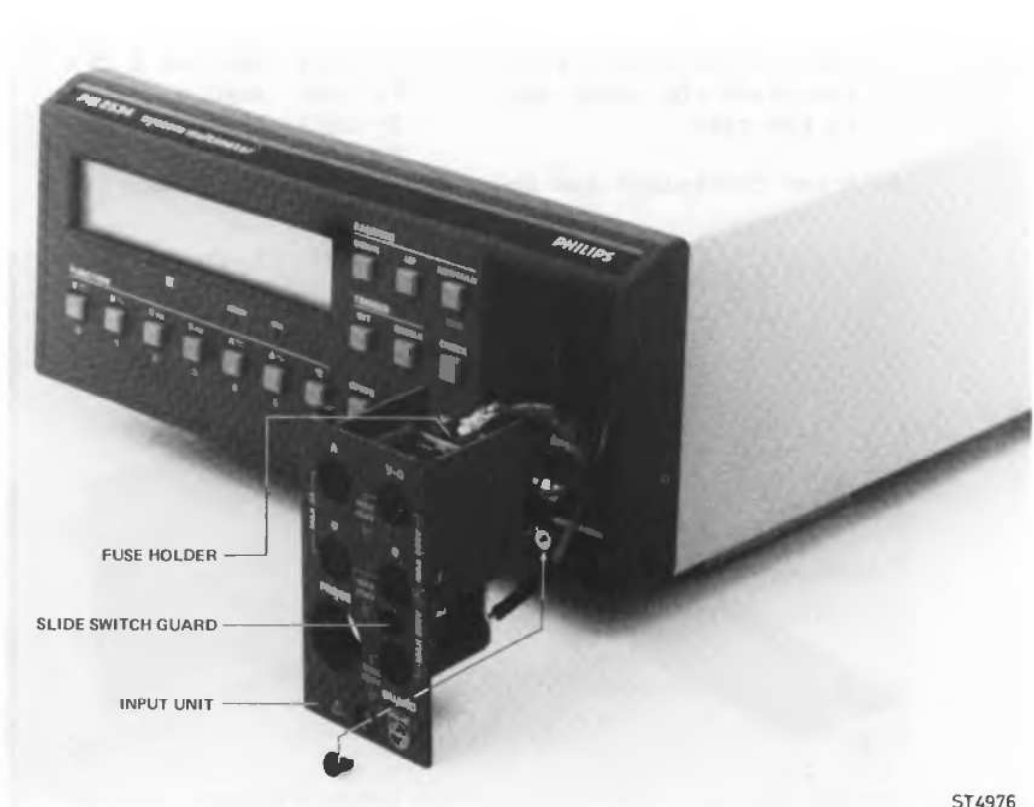

Figure 6.3
- Remove the fixing screw (figure 6.3).